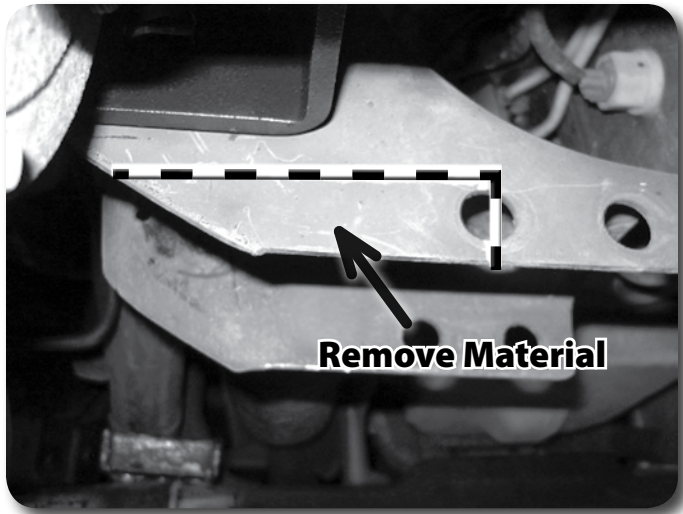

Figure 20
35. On the passengers side the front must be trimmed to clear the offset bend. Mark from the top of the factory crossmember hole over to the outside edge of the bracket. Trim up to the hole from the bottom. (Figure 20)